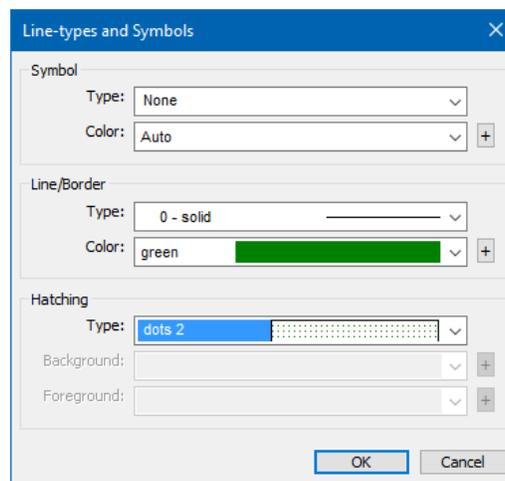

Figure 9-9: Configuring Background Surface Format.
17. Within the *Background Display Properties* dialog, select *Profile Feature Format* button and set the color to green and hatch type to dots 2 (Figure 9-9).